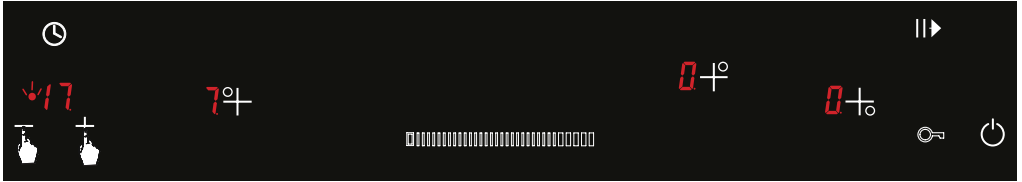

Figure 16
3. The desired time is set to the desired time between 1 and 99 minutes using **-** and **+** buttons when the temperature level setting time is active (for 10 seconds). (See Fig. 16)